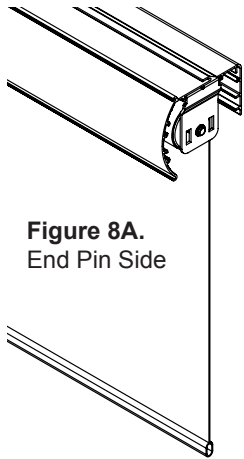

Figure 8A.
Step 9. To install, insert the pin on the end plug into the center hole of the cassette bracket shown in **Figure 8A**. While putting pressure on the spring pin install the clutch onto the other bracket. The spring pressure will allow the tabs on the clutch to seat into the bracket as shown in **Figure 8B**. The bottom of the clutch should always point straight down. The cassette brackets are identical so the clutch can be mounted on the left or right side.